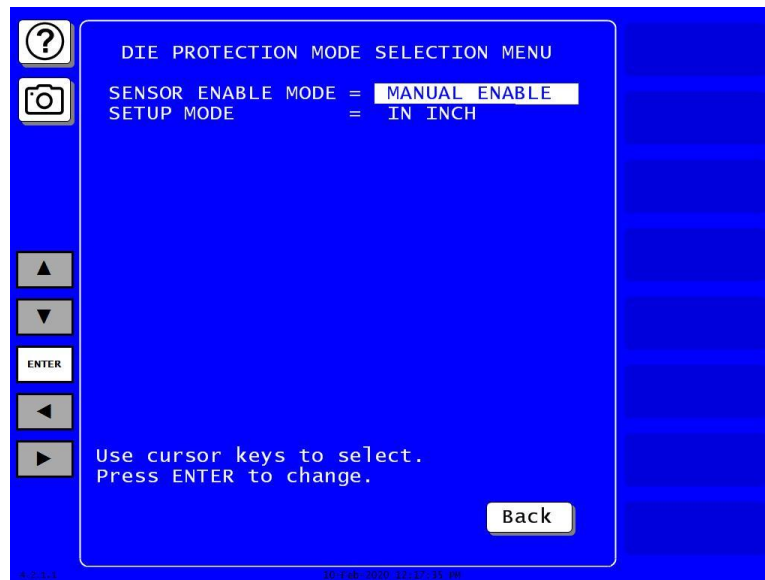

Figure 4-15. Die Protection Enable Mode Selection Menu
The SENSOR ENABLE MODE item, which appears on the Main Initialization Menu only when DiProPAC is installed, allows you to select the way in which your die protection sensors are enabled. This item also allows you to enable Setup mode if this feature has been wired during installation. You make these settings on the Die Protection Mode Selection Menu, Figure 4-15.
1. Select SENSOR ENABLE MODE on the Main Initialization Menu. The Die Protection Mode Selection Menu displays, Figure 4-15.